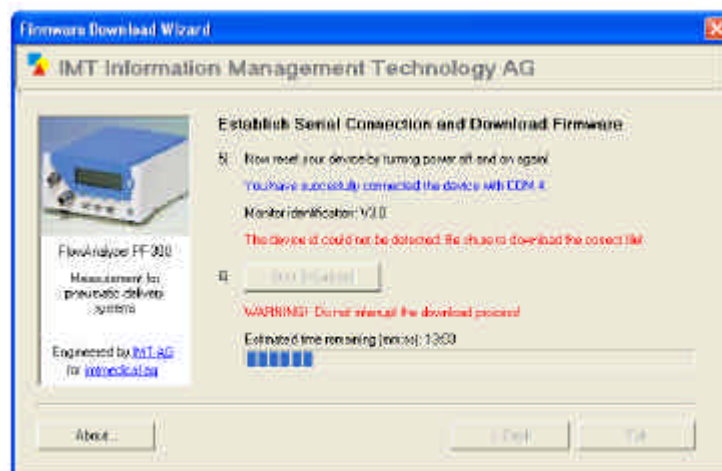

Figure 5, Download Progress Screen
- The download will take approximately 6 minutes in total and progress may be monitored by means of the download progress bar shown on the screen and also in figure 5.